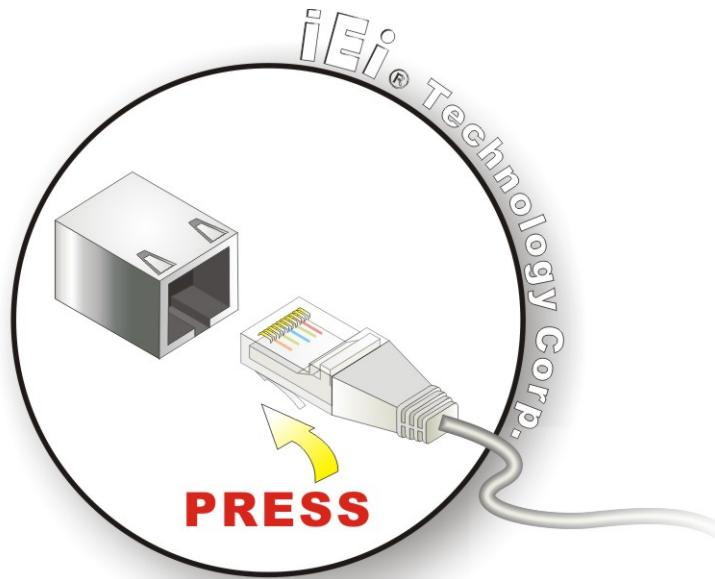

Figure 4-17: LAN Connection
Step 2: Align the connectors. Align the RJ-45 connector on the LAN cable with one of the RJ-45 connectors on the NANO-PV-D4251/N4551/D5251. See Figure 4-17.